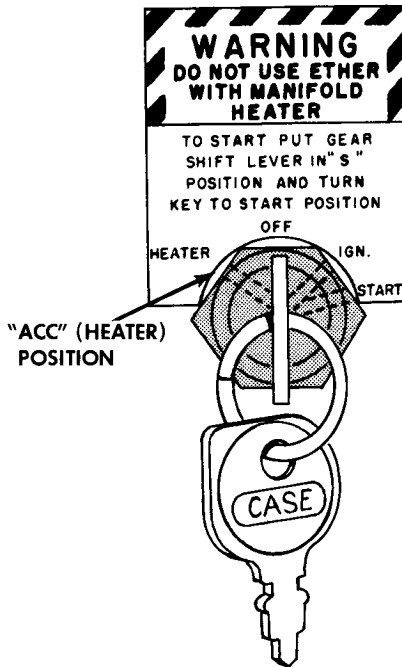

Figure 6
1. Turn and hold the starter key in the manifold heater (extreme left) ACC position for 30 seconds, Figure 6.